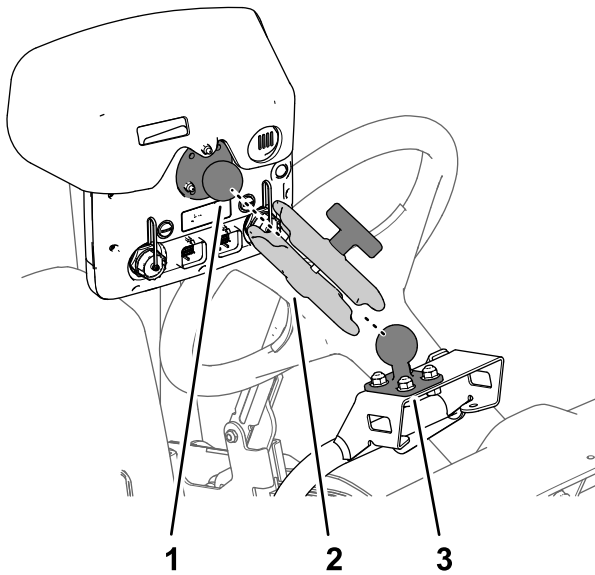

Figure 175
3. Assemble the ball fitting of the monitor and the ball mount on the machine to the monitor arm (Figure 175).
4. Adjust the monitor so that it is viewable from the machine operator's position and tighten the knob of the monitor arm by hand (Figure 175).